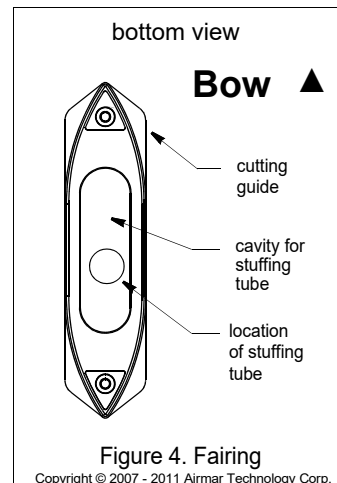

Figure 4. Fairing
6. Check the fit by placing the fairing against the hull. **Be sure the fairing is parallel to the centerline of the boat** (keel), and the stuffing tube is about 2/3 of the way back in the cavity (Figure 4). Hold the fairing on the ends and try to rock it back and forth. Shape the fairing to the hull as precisely as possible with a rasp or power tool until it no longer rocks.